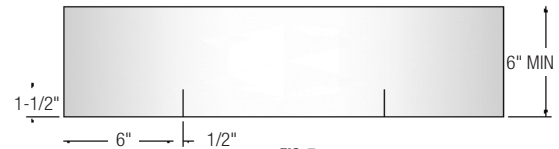

FIG. 7
B) Measure the width of the rough opening. Cut a length of flashing that is 12" wider than the rough opening. This will allow you to run the flashing 6" up each side. (Fig. 7)
C) Cut 1-1/2" slits at each end of the flashing as shown below. (Fig. 7)